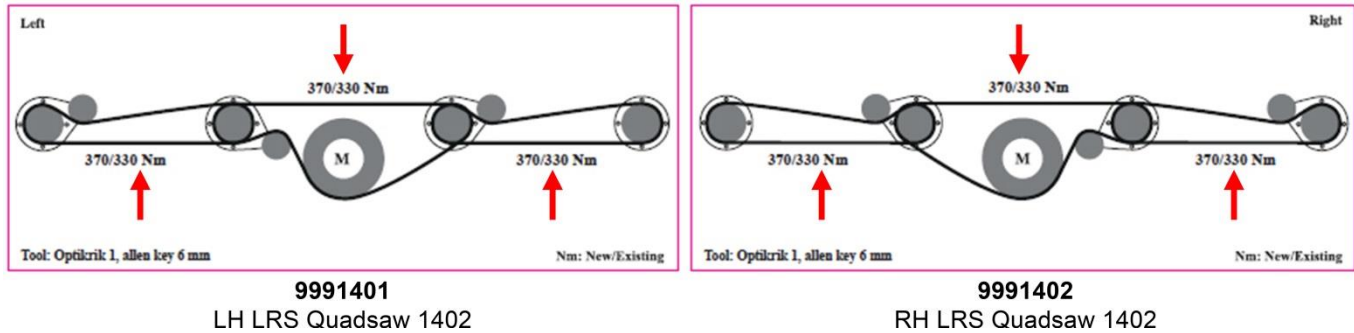

Figure 5.1
- 5.1.1.6 Inspect, and if necessary adjust the belts. See Figure 5.1
It is of utmost importance that the belts are correctly mounted and tightened. When **new belts are mounted they must be tensioned to 370 Nm**. See Figure 5.1, for guidance on left-hand and right-hand build machines.
After 3-5 working hours the belts may have slackened and must be checked. Once **used, belts must be tensioned to 330 Nm**. See Figure 5.1, for guidance on left-hand and right-hand build machines.
5.1.2.4 Adjust to the correct tension as directed in Figure 5.1 (370/330 Nm);